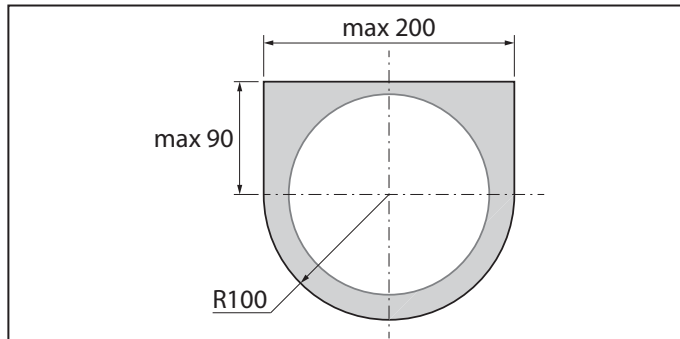

Fig. 8. Recess size and shape
2. After the core hole is ready cut out a 25 mm deep recess for laying of the cables and the contact sockets connected to the mounting plate. The recess shape is shown in fig. 8.